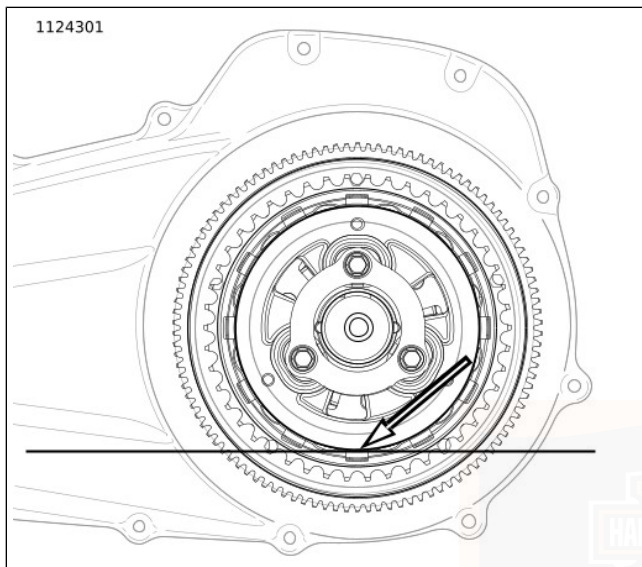

Figure 68. Primary Lubricant Level
- b. See Figure 68. Proper level is approximately at bottom of pressure plate OD.